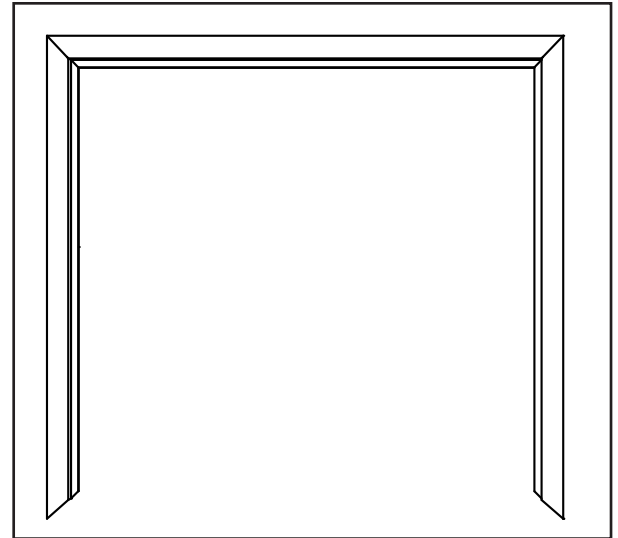

Figure 1
1) On the floor, assemble the outer frame left, right and top using screws provided (See Figure 1).